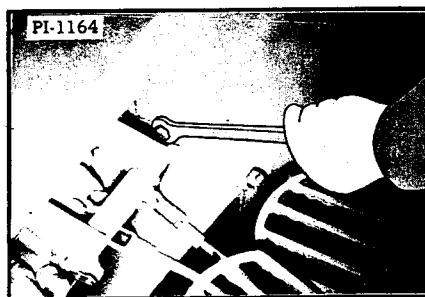
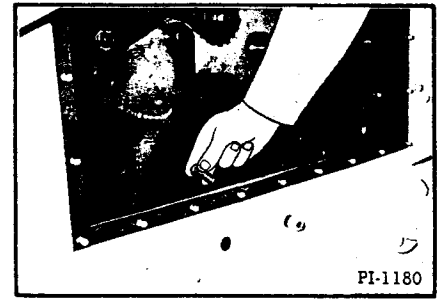
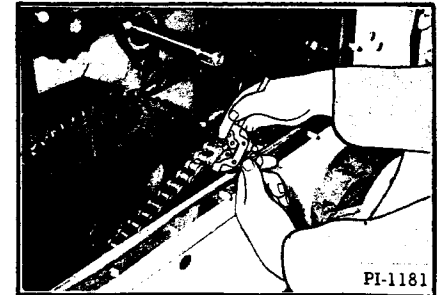

Fig. 66 Loosen the Final Drive Chains
Fig. 82 Removing the Outside Bolts
Fig. 83 Disassembling Final Drive Chains
- C. Loosen the final drive chains. Loosen the outside holding bolts (Figure 65) and the inside holding bolts (Figure 66). Remove the outside holding bolts from the mounting holes (Figure 82). This will make it possible to raise the final drive chains enough to disconnect them. Use a chain disassembly tool to remove the connector links (Figure 83).
4. Install the outside holding bolts (jackshaft mounting bolts) (Figure 82).